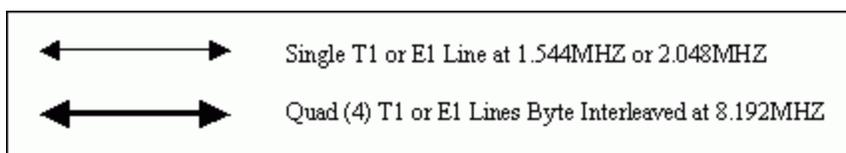
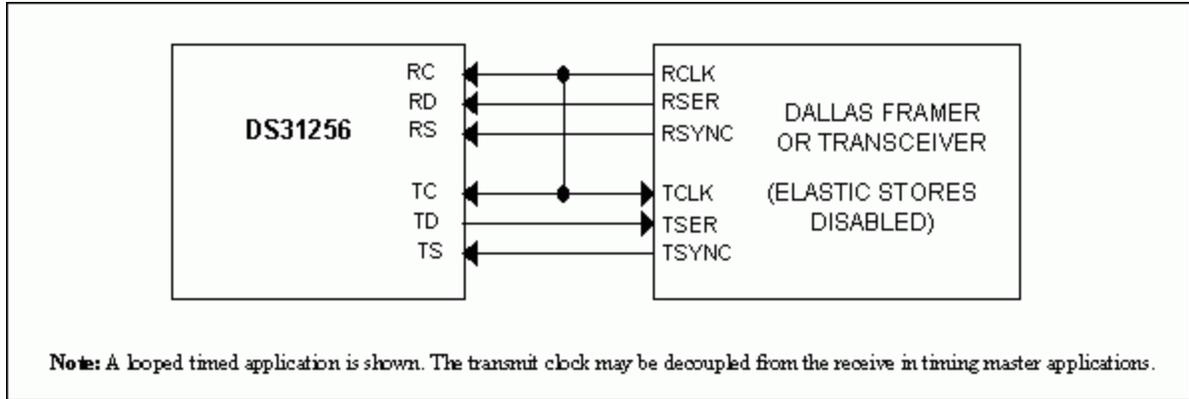
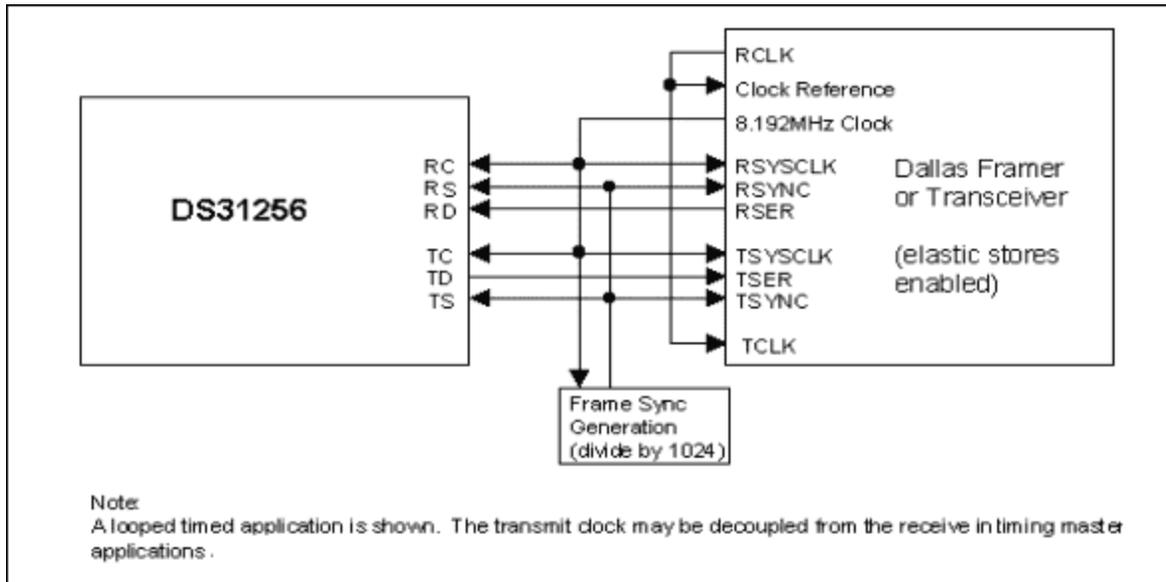

Figure 1. Application drawing key.
Figure 2. Single T1/E1 connection.
Figure 3. Quad T1/E1 connection.
1. The first type is where a single T1 or E1 data stream is routed to and from one of the sixteen physical ports of the DS31256. This first type is represented as a thin arrow (**Figure 1**) in the application examples and the electrical connections are shown in **Figure 2**.
2. The second type is where four T1 or E1 data streams have been Time Division Multiplexed (TDM) into a single 8.192MHz data stream, which is routed to and from the DS31256. This second type is represented as a thick arrow in Figure 1 and the electrical connections are shown in **Figure 3**.